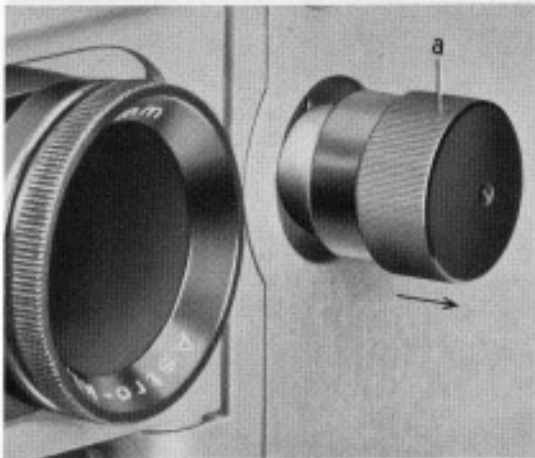

Fig. 9 18 Frames per sec.
To adjust frame frequency, press in or pull out control a as required (Fig. 9, 10).
3. Set frame frequency (Figs. 9, 10) and choose shutter (Figs. 6, 7, 8).